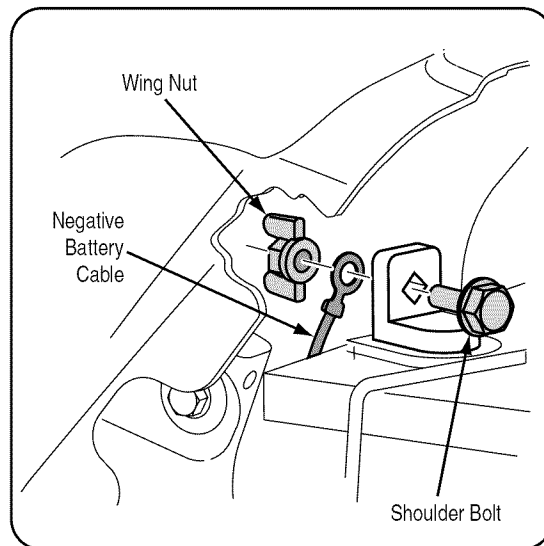

Figure 1
- Pull the protective cap, if present, off the negative battery terminal. Attach the negative cable (heavy black wire) to the negative battery terminal (-) with the bolt and wing nut. See Figure 1.